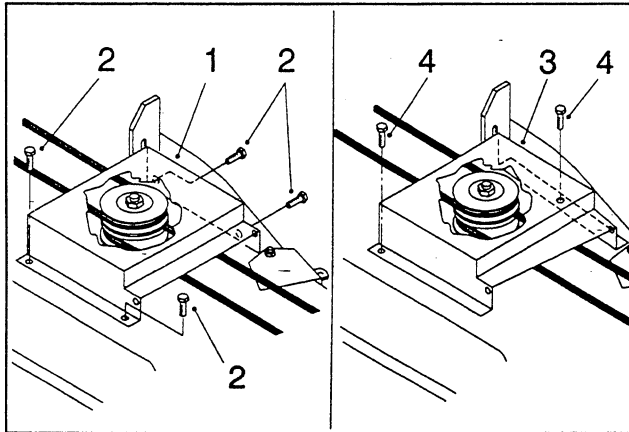

Figure 7
2. Install the mower belt cover (Fig. 7).
- a. **42" belt cover**—Mount the mower belt cover loosely on the outside of the belt-cover bracket and the top of the mower using four $\frac{1}{4}$ " x $\frac{1}{2}$ " thread-forming hex-head flange screws (Fig. 7). **Do not tighten the screws** because an adjustment must be made later.
using two $\frac{1}{4}$ " x $\frac{1}{2}$ " thread-forming hex-head flange screws (Fig. 7). **Do not tighten the screws** because an adjustment must be made later.
4. Close the blower cover completely. While holding the blower cover down, tighten the mower belt-cover screws (Fig. 7).